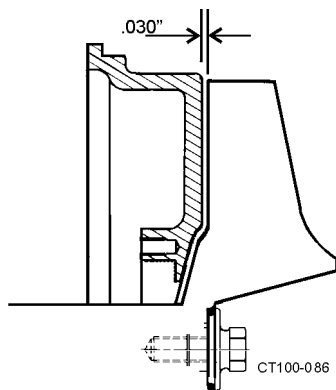
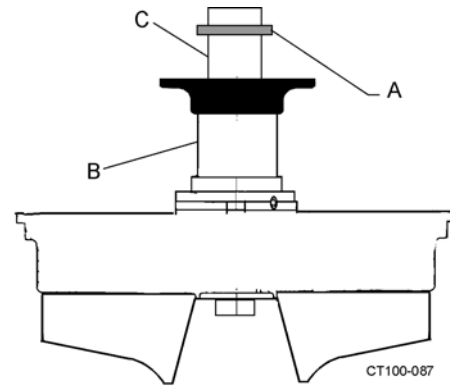

Figure 34 - Clearance Between Impeller and Backplate
Figure 35 - Locations of Shims
- Check the space between the back of the impeller and the backplate with a feeler gauge (.030 nominal) while holding the backplate tight against the bearing housing flange. (Any axial movement of the shaft should not be added to the .030 nominal clearance). (Figure 34). If needed, change this clearance by adding or removing shims. Shims (Figure 35, item A) are added on the drive shaft (Figure 35, item C) behind the impeller shaft (Figure 35, item B).